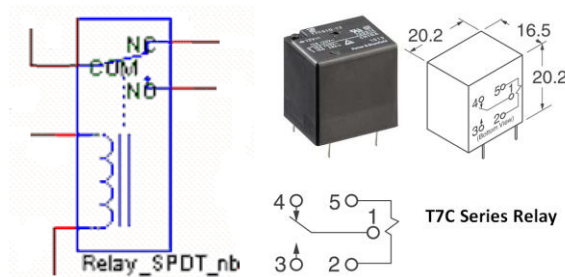

Figure D-1.
Relays: A relay is an electrically operated switch. (See Wikipedia <http://en.wikipedia.org/wiki/Relay>.) A LTspice model of a common configuration is shown in Figure D-1. When no current is flowing through the inductor between the pins connected to the coil, the switch remains in the normally closed (NC) position. However, when current flows through the inductor, it forces the switch to change to the normally open (NO) position. The switch itself is attracted by the electromagnet created by the inductor. When the relay switches state, you can hear a little click.